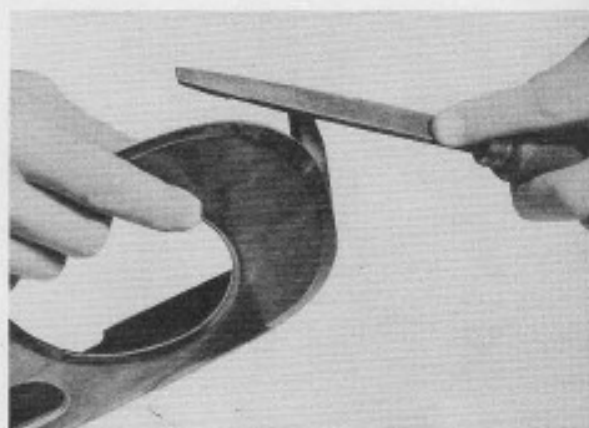

Fig. 1.
1. A major cause of creaks from the facia is contact with the capping rail. Remove facia panel by extracting the four 2BA counter-sunk screws. Using a fine cut file it is possible to give the facia adequate clearance at these points of contact. Great care must be taken in filing the facia as it is easy to lift the veneer from its backing, it is therefore essential to lift the file on its back stroke. Fig.1. illustrates the correct manner in which the file should be used.